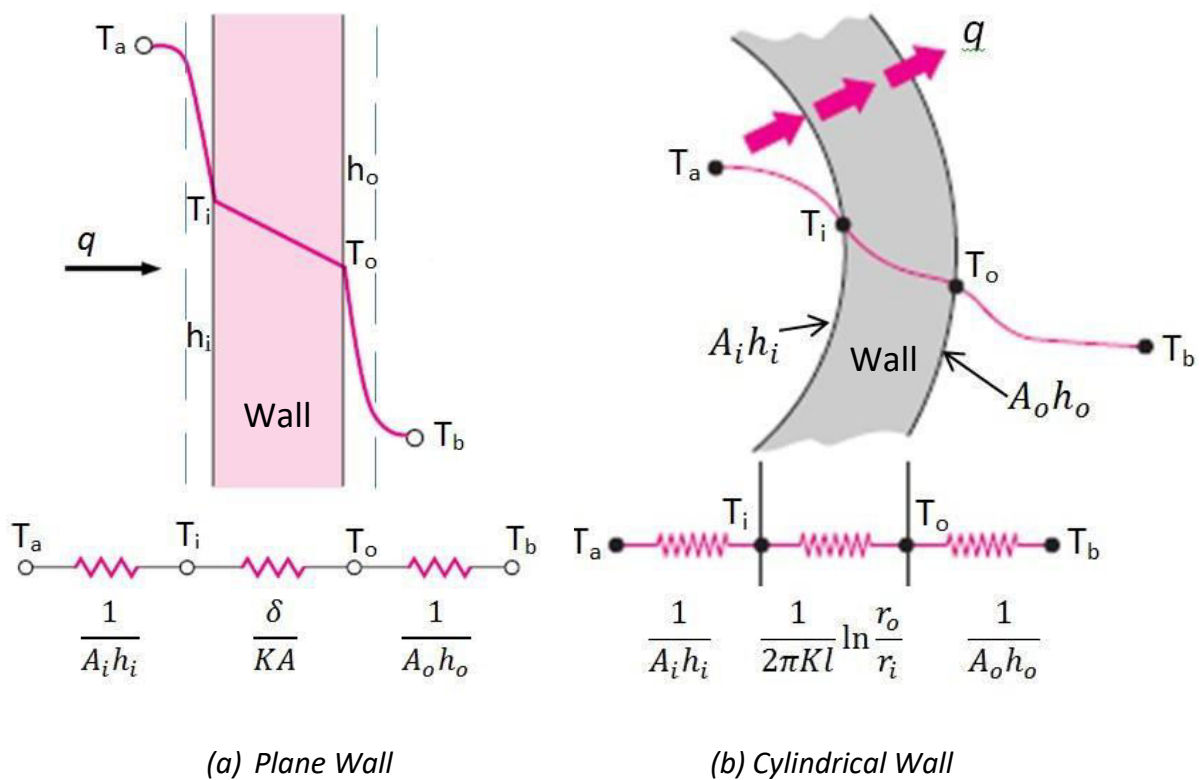

Fig. 9.8 Thermal resistance network for (a) plane and (b) cylindrical separating wall
– When the two fluids of the heat exchanger are separated by a plane wall as shown in Fig. 9.8 (a), the thermal resistance comprises:
- For a cylindrical separating wall as shown in Fig. 9.8 (b), the cross-sectional area of the heat flow path is not constant but varies with radius.